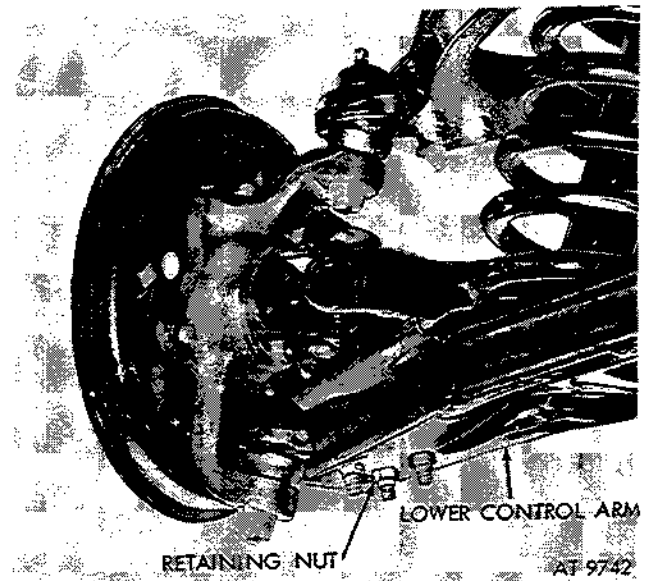

Figure 2-316. Remove retaining nuts and bolts from lower control arm.
- (5) Remove three ball joint retaining nuts and bolts from lower control arm (fig. 2-316).
(1) Raise vehicle and position support under lower suspension arm.
(2) Disconnect lower end of shock absorber (para 2-144).
(3) Disconnect wheel drive shaft (para 2-132).
(4) Remove three bolts and nuts securing lower ball joint to suspension arm (fig. 2-316).
(5) Lower suspension down and remove coil spring.